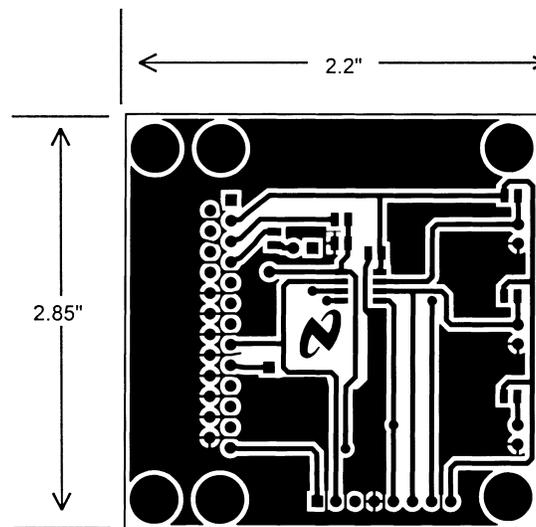

Figure 5. Printed Circuit Board Used for Thermal Resistance Specifications
- (1) Soldering process must comply with Texas Instruments Incorporated Reflow Temperature Profile specifications. Refer to
- (2) Reflow temperature profiles are different for lead-free and non-lead-free packages.
- (3) LM75 θJA (thermal resistance, junction-to-ambient) when attached to a printed circuit board with 2 oz. foil similar to the one shown in Figure 5 is summarized in the table below: